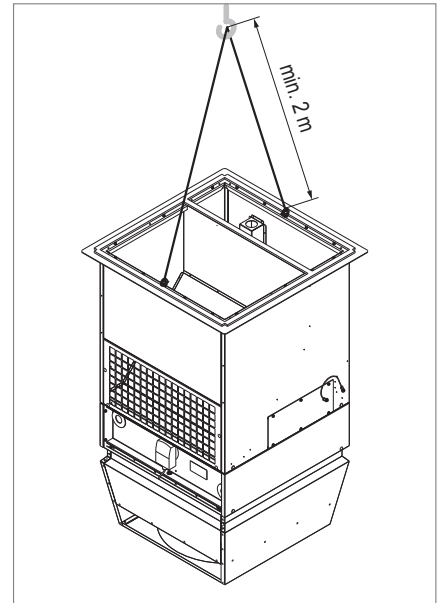

Fig. 22: Minimum length of the lifting ropes
- Heed the minimum length of the lifting ropes (see Fig. 22).